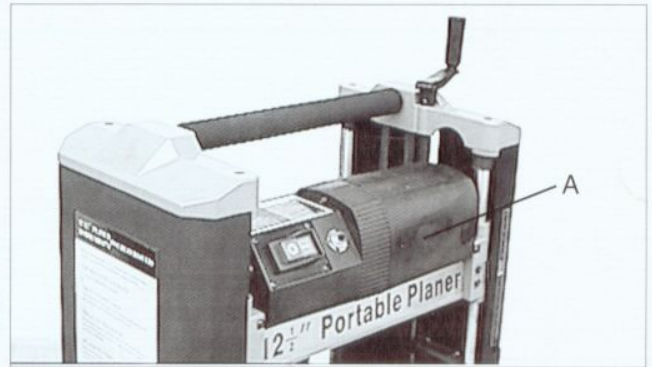
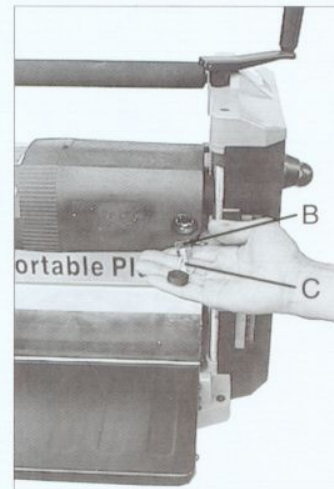

Fig.29
Fig.30
The brush holders,one of which is shown at (A) Fig. 29,are located on the motor housing opposite each other.Fig.30,illustrates one of the brushes removed for inspection.When the carbon (B) on either brush is worn to 3/16" in length or if either spring (C) or shunt wire is burned or damaged in any way,replace both brushes.If the brushes are found serviceable after removing,reinstall them in the same position as removed.